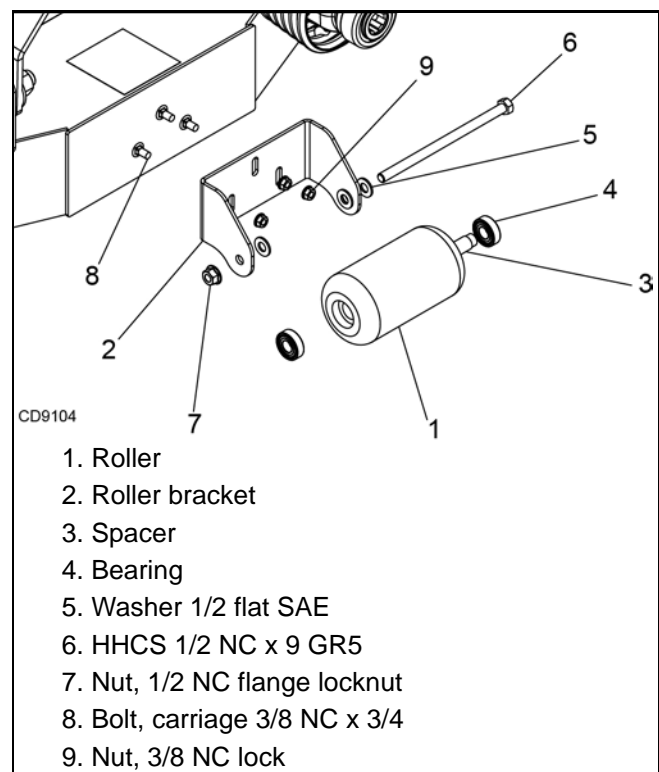

Figure 35. Front Roller Installation
1. Insert three carriage bolts (8) through the front mower frame from inside out.
2. Place roller bracket (2) over bolts; then install flange lock nuts (9) on bolts and tighten.
3. Place front roller (1), spacer (3), bearings (4), and washers (5) in roller bracket as shown in Figure 35.
4. Insert cap screw (6) through bracket and roller.
5. Secure with flanged lock nut (9). Do not over-tighten; roller must spin freely.
2. Use opposite roller angle bracket for drill template. Position RH roller angle bracket (7) at LH rear corner of deck. Position LH roller angle bracket (8) at RH rear corner of deck. Insert carriage bolts (5) through center bracket hole and chain shield hole in deck. Retain with flanged lock nuts (6).
4. Unbolt roller angle brackets and swap to their proper side. Reinstall each bracket using chain shield hole and bracket hole for the widest spacing. Use carriage bolts (5) and flanged lock nuts (6) to retain. Mark inboard-most mounting hole for each roller bracket. Use drill and 7/16" drill bit to drill through deck plate. Install second carriage bolt (5) thru bracket and retain with flanged lock nut (6).
5. Install plastic roller (2) and two flat washers between roller angle bracket and side frame as shown in Figure 35. Install ½ x 6 cap screw (1) through side frame, roller, and then angle bracket. Retain with flanged lock nut (3). Do not over tighten. Rollers must turn freely.